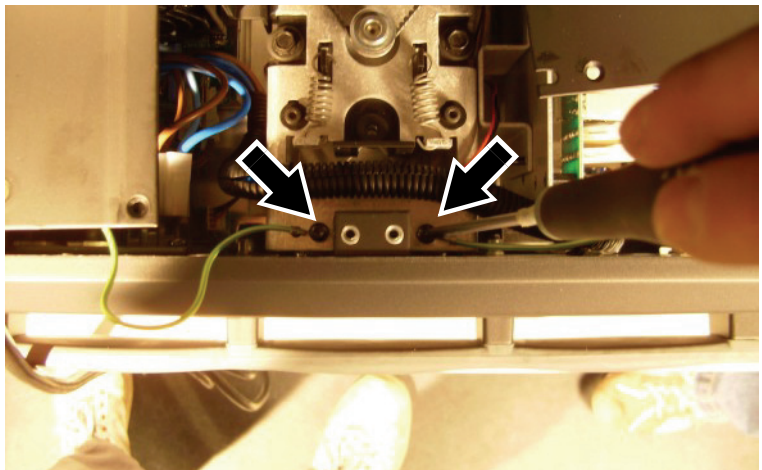

Figure 2
3. See Figure 2. Slide the covers out slightly for access to the ground (earth) leads. Disconnect the ground leads by removing their screws (arrowed, Torx 20, P/N 08070701) and remove the covers. Keep the screws. The covers are no longer required as new items are supplied in the Upgrade Kit.